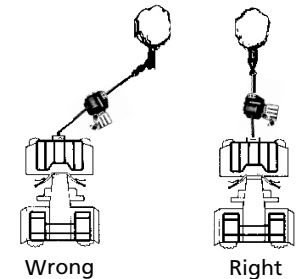

Figure 5
14. AVOID CONTINUOUS PULLS FROM EXTREME ANGLES as this will cause the wire rope to pile up on one end of the drum (Figure 5). This can jam the wire rope in the winch, causing damage to the rope or the winch.